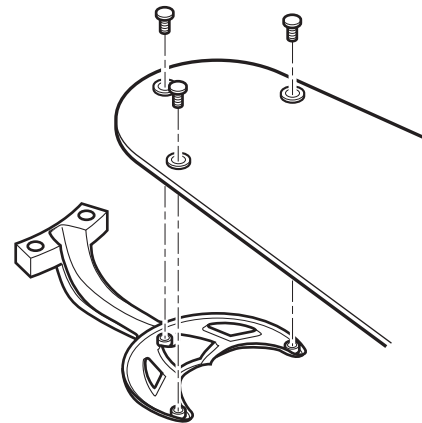
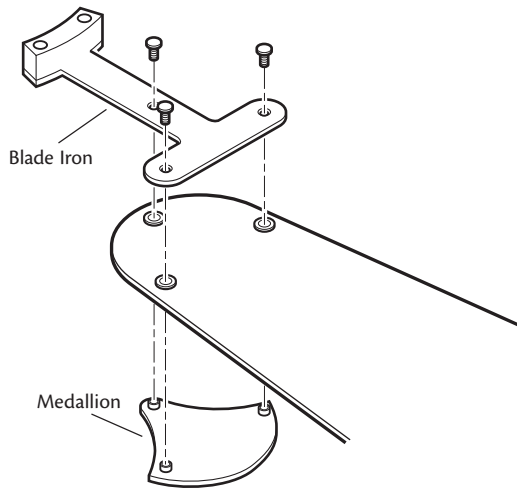

Figure 23 - Attaching the blade to the blade iron
Figure 24 - Attaching the blade to the blade iron and medallion
- Attach each blade to blade iron using three blade assembly screws as shown in Figure 23. Some fans feature a decorative medallion as well as a blade iron. Insert the assembly screws into the blade iron, through the blade and into the medallion, with the blade sandwiched between the blade iron and medallion as shown in Figure 24.